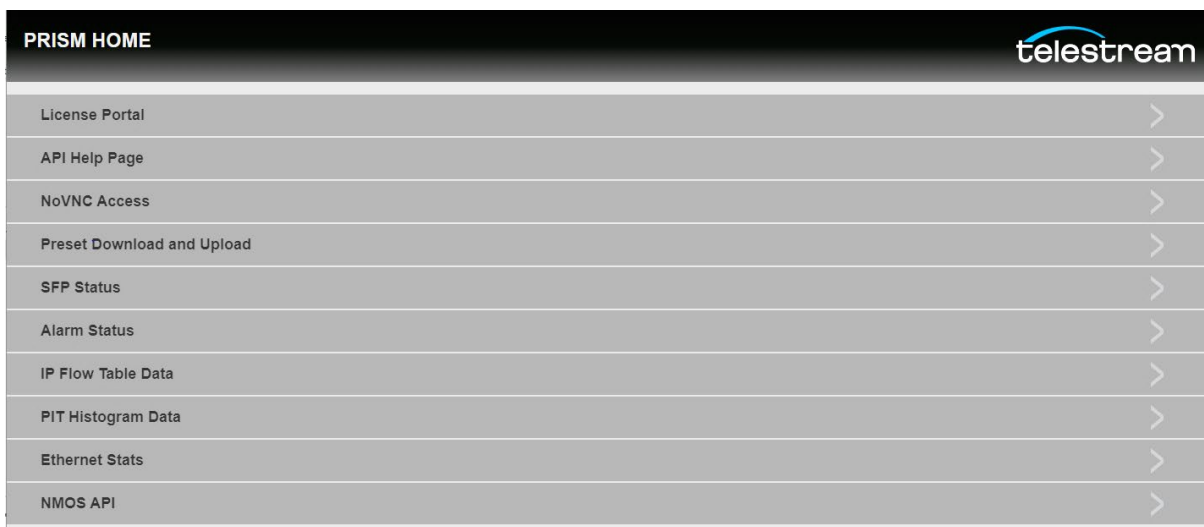

Figure 77: PRISM HOME page
1. Go to the PRISM HOME page for the PRISM with the presets. (See Figure 77.)